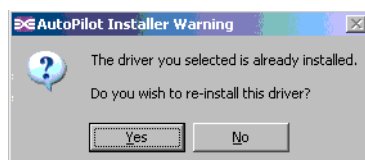

Figure 24-34 Emulex - Already installed
3. Click **Next** again. In the pop-up window, you will see that the driver is already installed. To install HBAnyware, you have to reinstall the driver, so select **Yes** (Figure 24-34) to do this.